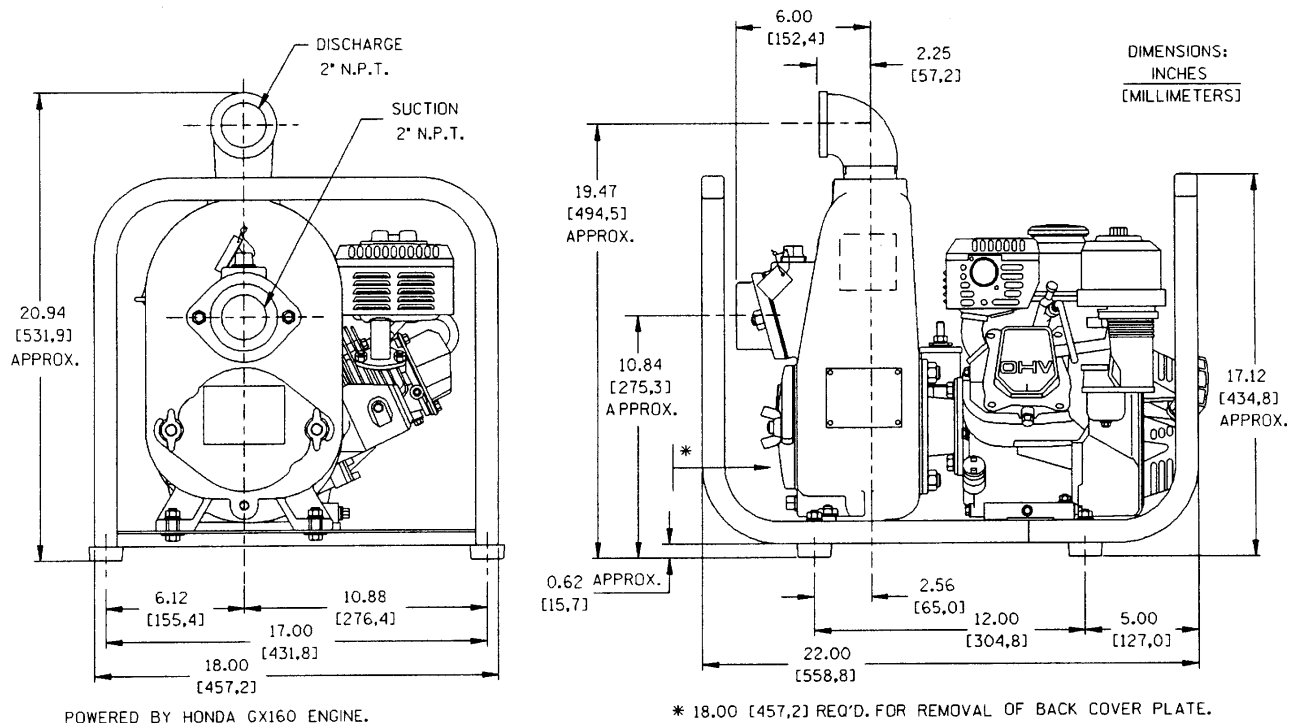

Figure 1. Pump Model 12D-GX160
See Figure 1 for the approximate physical dimensions of this pump.
- f. The rubber mounting kit and discharge elbow (see the Parts List, pages E-3 and E-5) were shipped loose with the pump. Refer to Figure 1, page E-2 and install the parts as shown.